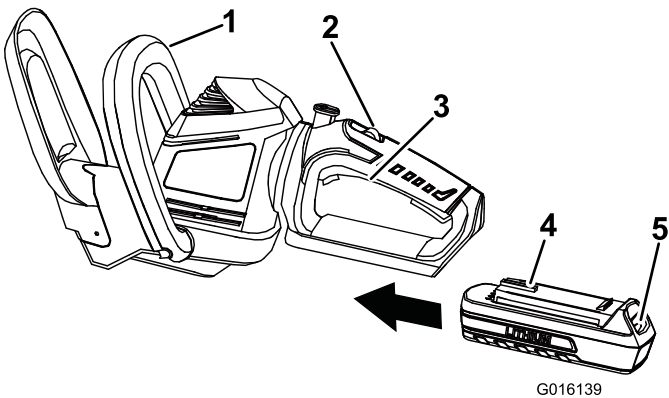

Figure 3
- 2. Align the tongue of the battery pack with the cavity in the handle housing (Figure 3).
- 3. Grasp the trigger handle (Figure 3).
- 5. Place one hand on the trigger handle. Place the other hand on the auxiliary handle (Figure 3).
- 6. Slide the lock switch backwards, towards you, then squeeze the trigger switch to turn on the hedge trimmer (Figure 3). The trimmer will stay on as long as the trigger switch is squeezed. Lock-off switch may be released once hedge trimmer is running (Figure 3).
1. Release the trigger switch (Figure 3).